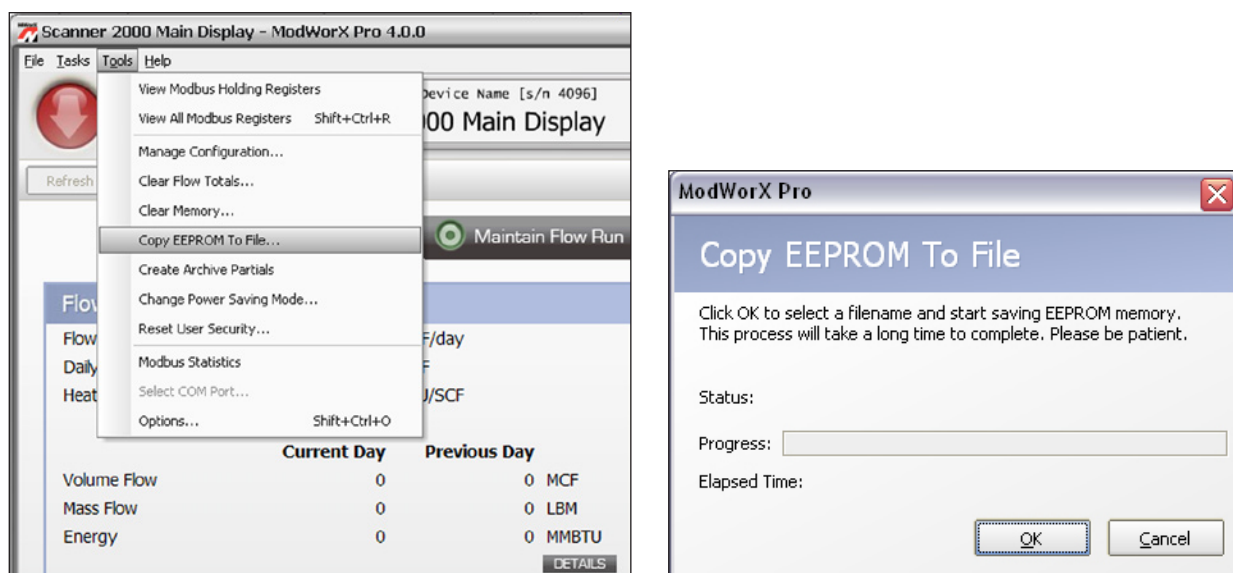

Figure A.9
1. Click on **Tools>Copy EEPROM to File** (Figure A.9).
2. Click **OK** on the Copy EEPROM to File screen (Figure A.9). A Write EEPROM to File dialog will appear, prompting the user to verify or change the location where the file will be stored, and the name of the binary file. Unless changed on the Options>Directories screen, the file location is C: NuFlo Log Data\ModWorX Pro, and the filename is EEPROM_YYYYMMDD_HHMMSS.bin where YYYYMMDD is the year, month and day that the memory is saved, and HHMMSS is the hour, minute and second that the memory is saved. For example, EEPROM_20090118_230443.bin is the name of a file copied at 11:04:43 p.m. on January 18, 2009.